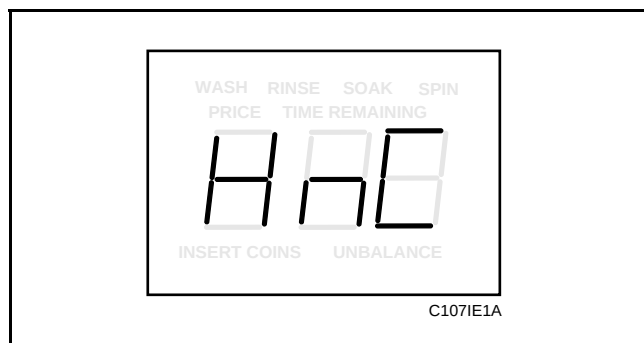

Figure 8
3. Press the DELICATES (+) pad or the COLD (–) pad to scroll through the programmable options until “HnC” appears in the VFD. See **Figure 8**.